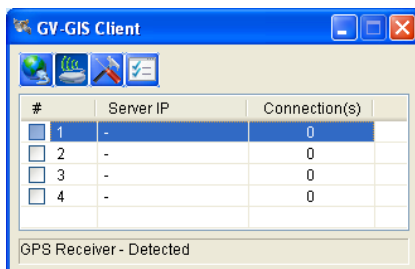

Figure 11-81
2. Click the  button on the GV-GIS Client window (Figure 11-81). This dialog box appears.
3. Click the  button on the GV-GIS Client window (Figure 11-81). This dialog box appears.